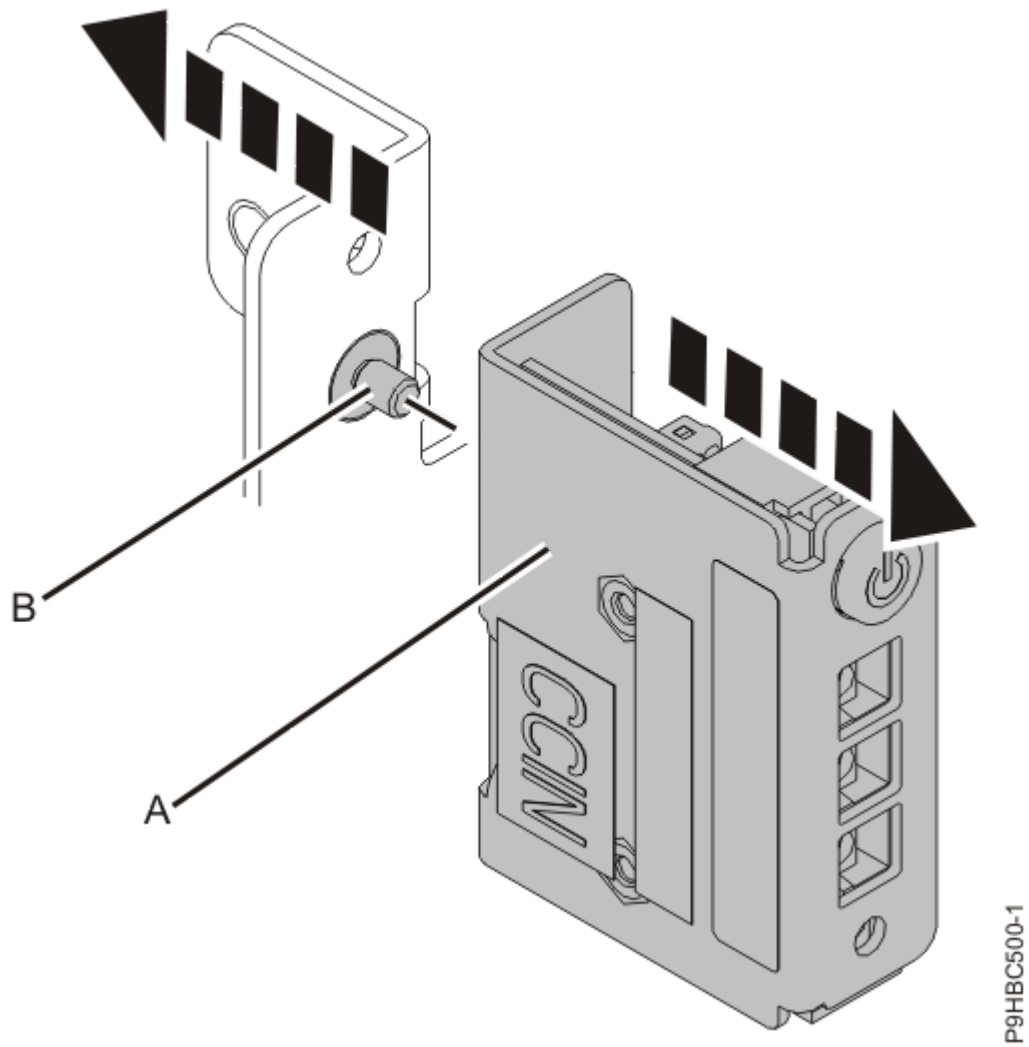

Figure 32. Removing the control panel from the bracket
4. Loosen the screw **(B)** that secures the control panel **(A)** to the bracket as shown in Figure 32 on page 36.